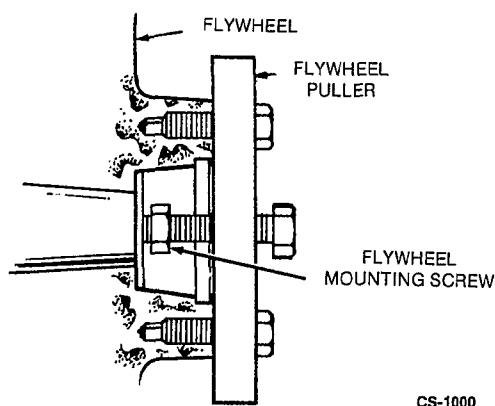

FIGURE 8. BLOWER WHEEL PULLEY
2. Install a puller bar on the flywheel (Figure 8).